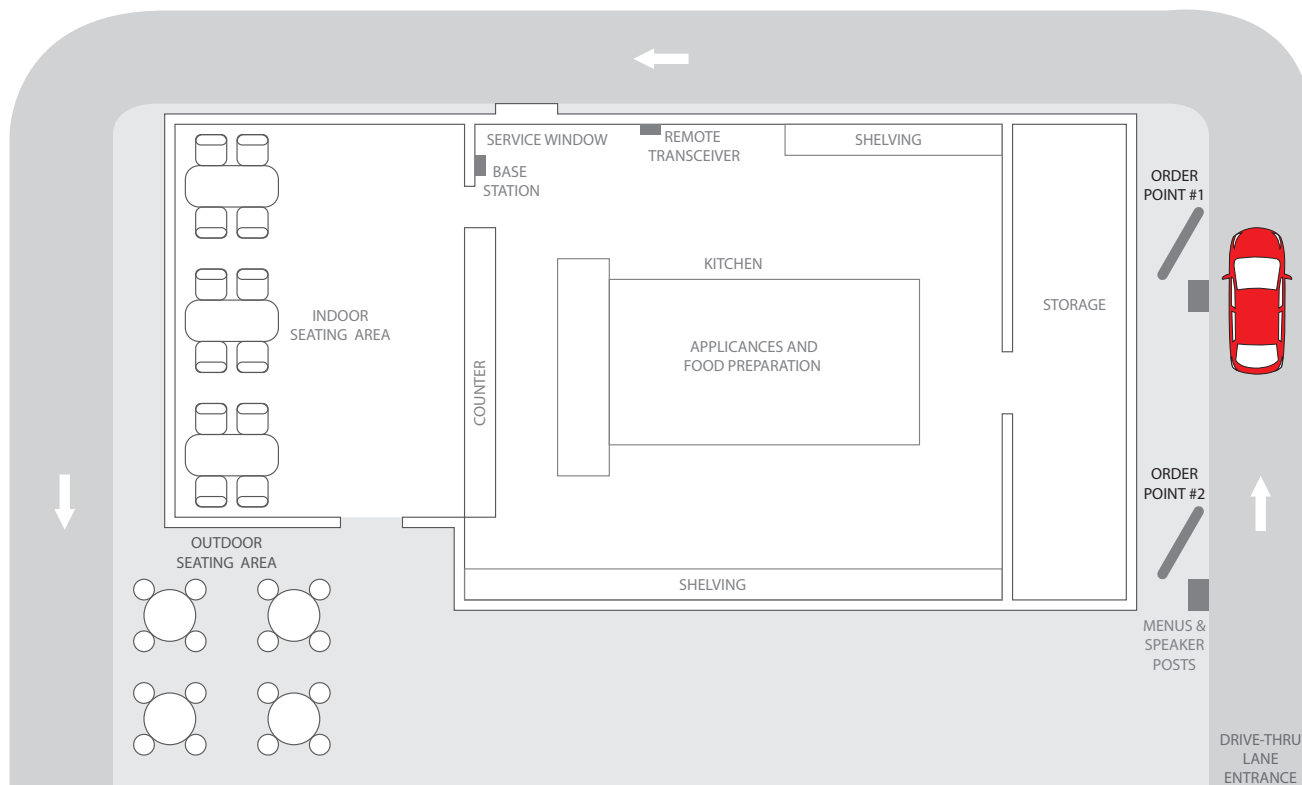

Fig. 4.3
Pull Forward: This message is only used for stores with a tandem lane configuration. It is enabled by default. In tandem operation, customers at Order Point #1 are served by Order Taker #1 (e.g., red vehicle in Fig. 4.3) and customers at Order Point #2 are served by Order Taker #2.
forward” message will automatically be played from the Speaker Post or Menu Board #2. For example, in Fig. 4.3, when the customer in the red vehicle first arrived at Order Point 2, there was no customer in front at Order Point #1, so the Pull Forward message played, requesting that the customer pull forward to Order Point #1. This clears Order Point #2 to receive the next customer.
- Tandem: A store with two order points but only utilizing a single lane (an order point in-line after the other). Also see Message Types: Pull Forward and Fig. 4.3 under “Messages” on page 22.